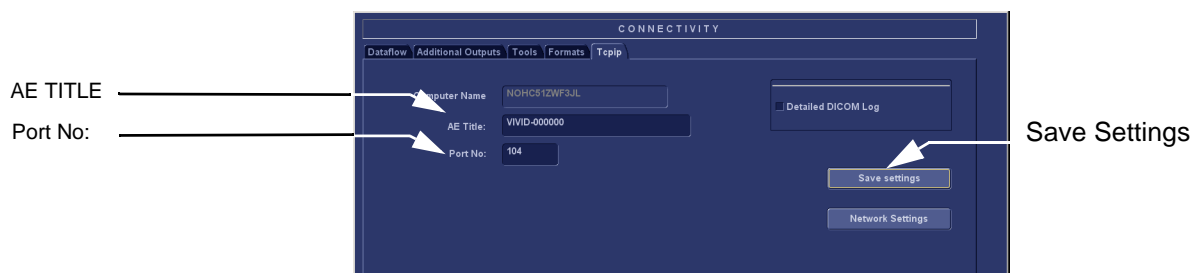

Figure 3-54 TCP/IP Set-up for EchoPAC PC Turnkey
- 2.) Press **Save Settings** to save the new settings where shown in Figure 3-54 "TCP/IP Set-up for EchoPAC PC Turnkey" on page 3-64. This will display a Warning Dialog as shown in Figure 3-55 "Warning" on page 3-64.